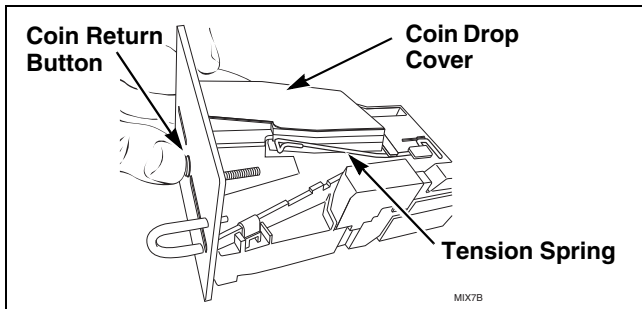
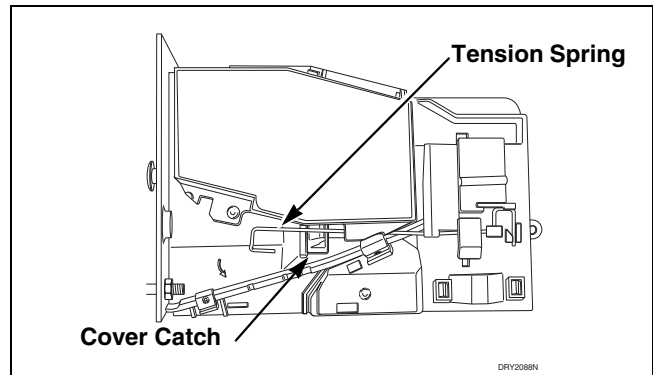
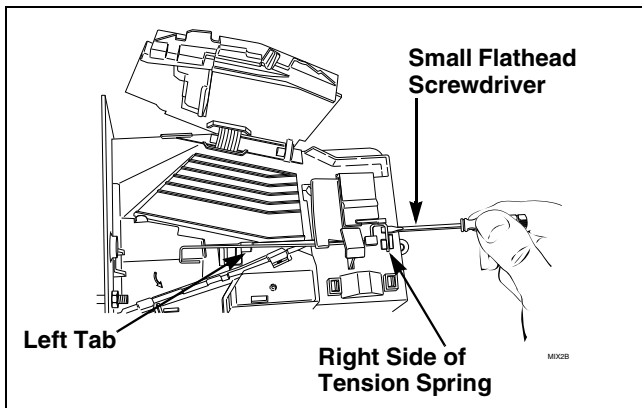

Figure 2
Figure 4
Figure 5
- (1) Clean coin drop. Refer to *Paragraph 26*.
- (2) On electronic coin drops with an old-style tension spring (shown in *Figure 2* and *Figure 4*), test and replace tension spring using the following instructions.
- (1) Push coin return button to open and close coin drop cover to clear possible coin jams. Refer to *Figure 2*.
- (1) Move tension spring downward until cover catch is free. Refer to *Figure 4*.
- (3) Place a small flathead screwdriver under right side of tension spring and lift up. Refer to *Figure 5*.
- (4) Use screwdriver to move spring approximately 3 mm to left.
(5) Lift spring over left tab. Refer to *Figure 5*.
- (13) Lift spring gently to place in position under left tab.
- (14) Push spring to right until it snaps into position. Refer to *Figure 5*.
- (15) Close coin drop cover.
- (16) Move tension spring over cover catch. Refer to *Figure 4*.